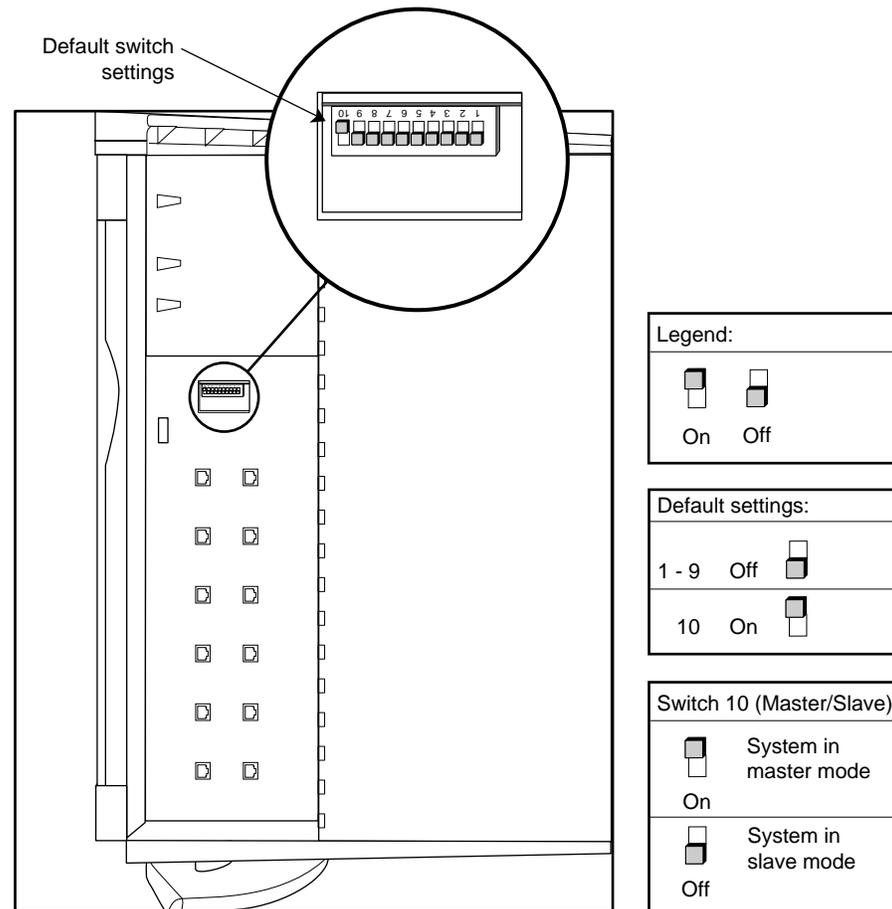

Figure 2-10 MSC DIP Switch Location and Settings
3. Locate the MSC DIP switch, as shown in Figure 2-10.
4. Using a ballpoint pen or similar object, change switch 10 to “off” to place this module in slave mode. See Figure 2-10.